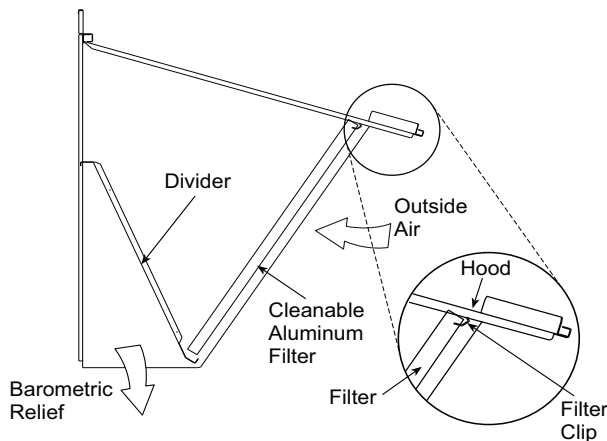

Fig. 14 — Economizer Filter Installation
- Open the filter clips, which are located underneath the hood top. Insert the aluminum filter into the bottom filter rack (hood divider). Push the filter into position past the open filter clips. Close the filter clips to lock the filter into place. See Fig. 14.